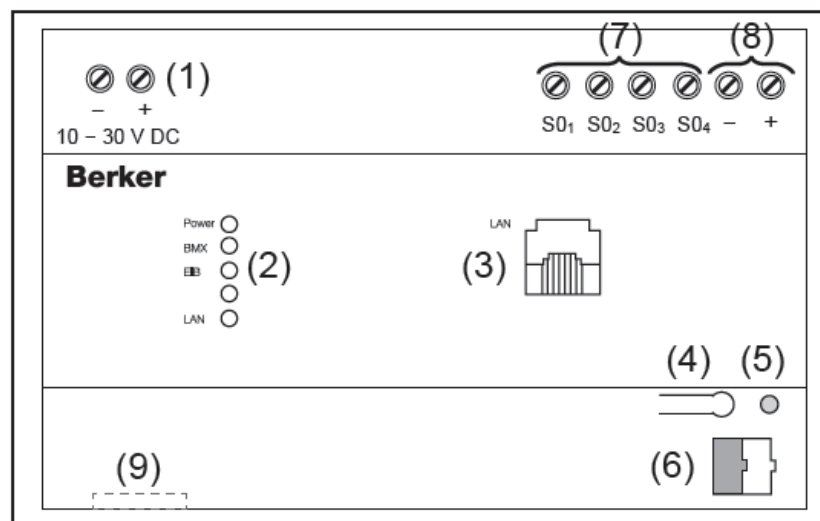

Figure 1: Device overview
#### Connect device (figures 1 and 2)
- Connect bus line to bus terminal (figure 1, 6).
- Connect power supply to the screw terminals (figure 1, 1) according to markings.
- Insert network connection (LAN) in RJ45 socket (figure 1, 3).
**The S0-terminals (figure 1, 7 - 8) are not suitable for mains voltage 230 V AC.**